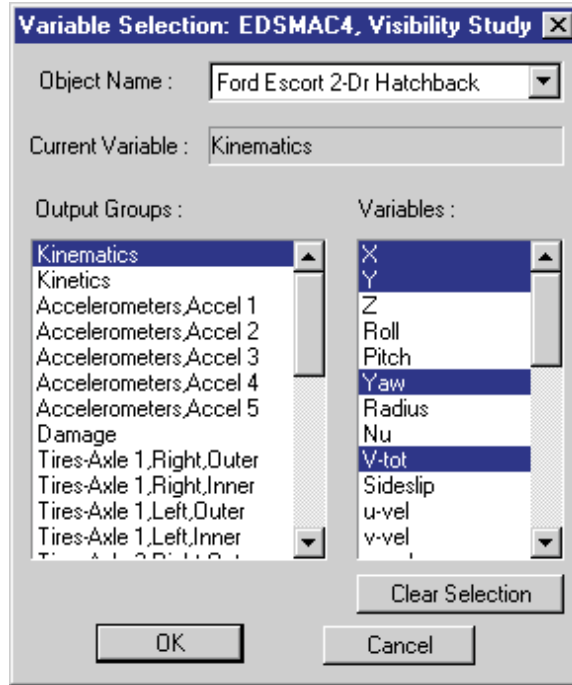

Figure 5-23 Variable Selection dialog, used for selecting the results displayed in the Output Report.
- Click on *Select Variables* in the Variable Output window. The Variable Selection dialog is displayed, as shown in Figure 5-23 on the following page.